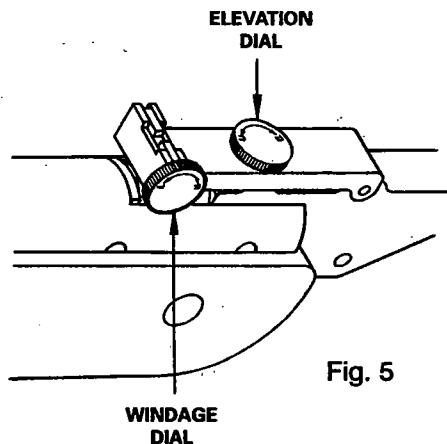

Fig. 5
- Elevation is set by means of the rear sight elevating dial situated on the rear sight base. Turn the dial counterclockwise to make the pellet hit higher on the target and turn the dial clockwise to make the pellet hit lower on the target. (Fig. 5).
- Windage is set by turning the windage dial located on the right side of the sight. Turn the dial counterclockwise to make the pellet hit to the left on the target and turn the dial clockwise to make the pellet hit to the right on the target. (Fig. 5).